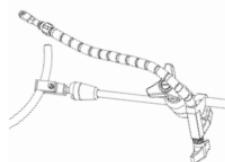

Figure 20
- Loosen the clamp using the small purple knob of the **Flex Arm** (such as UL-0106). Position the jaws around the segments of either **Articulating Arm** (UL-0110). Tighten small purple knob to affix the **Flex Arm** to the **Articulating Arm**. (Figure 20)